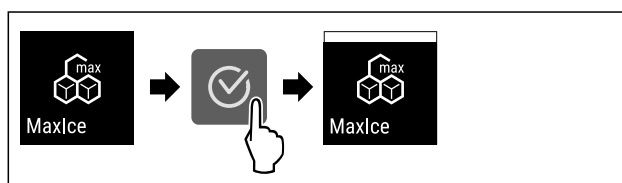

Fig. 19
- ▶ Complete the steps (see Fig. 19) .